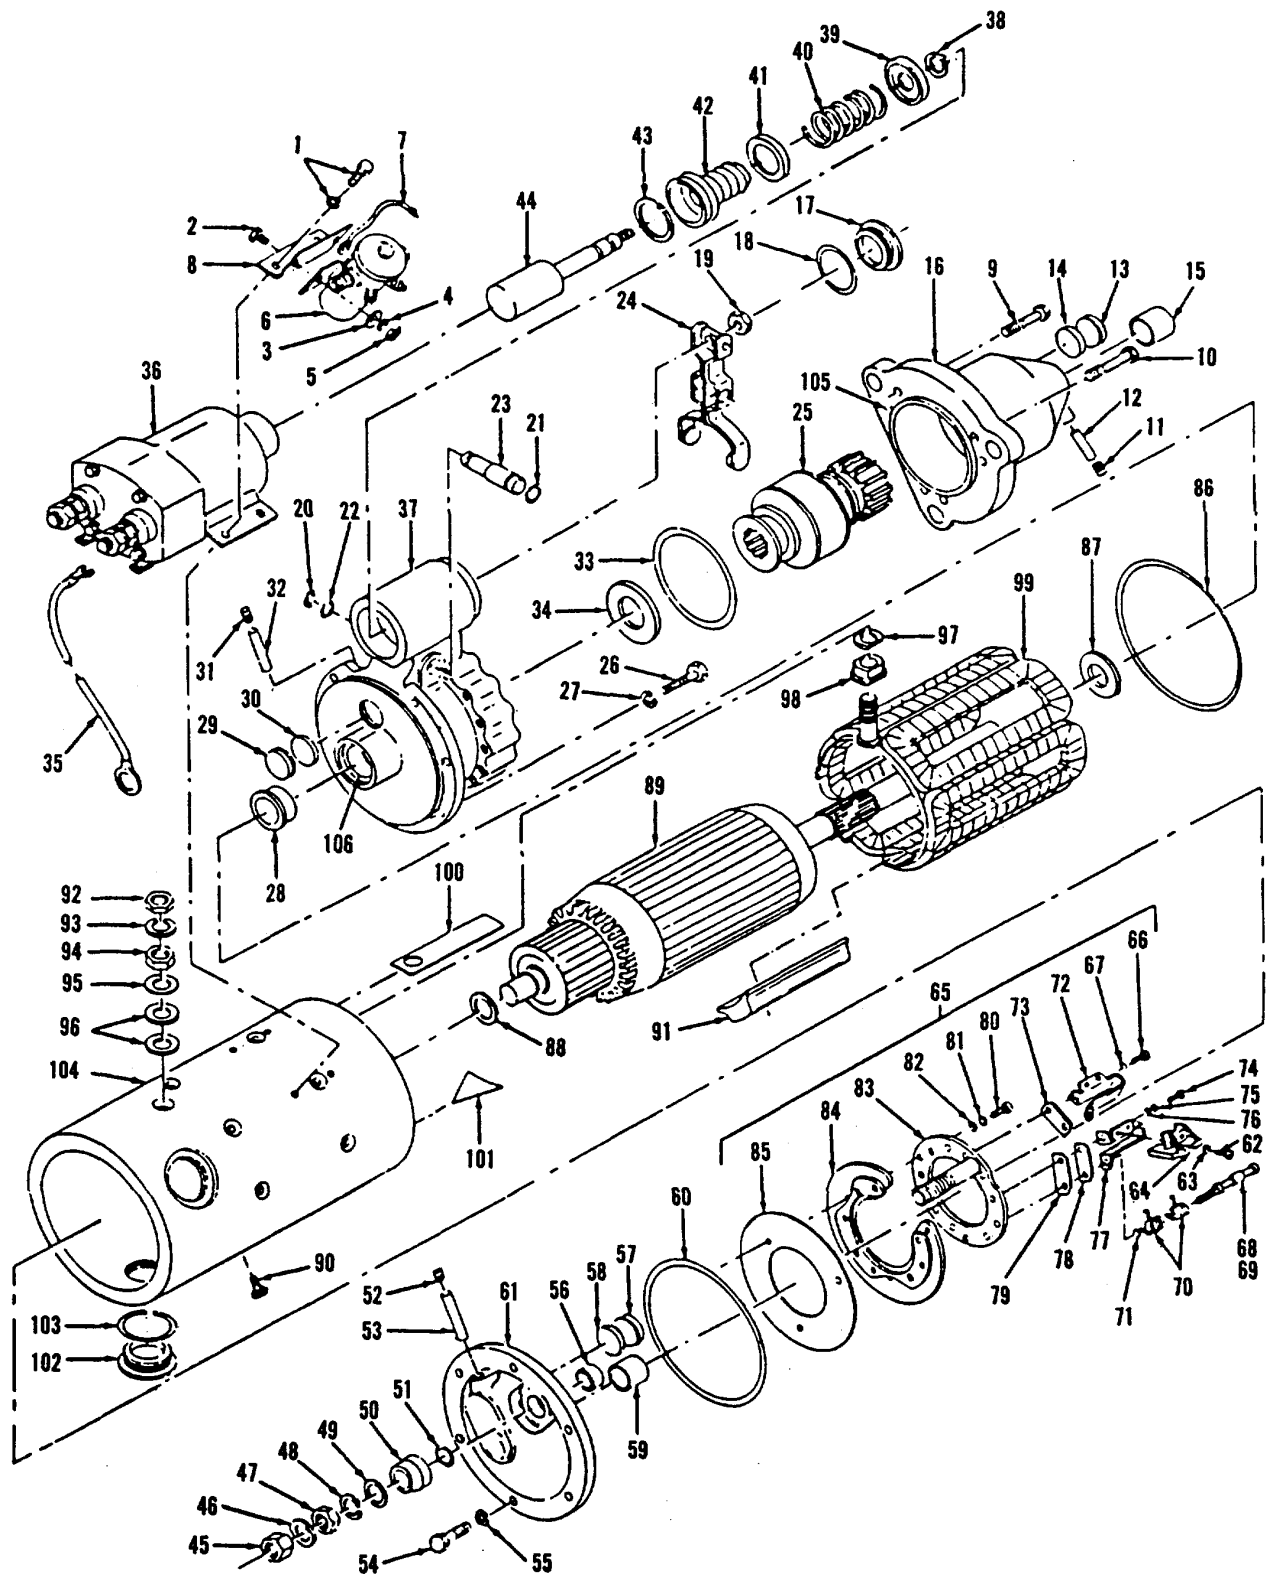
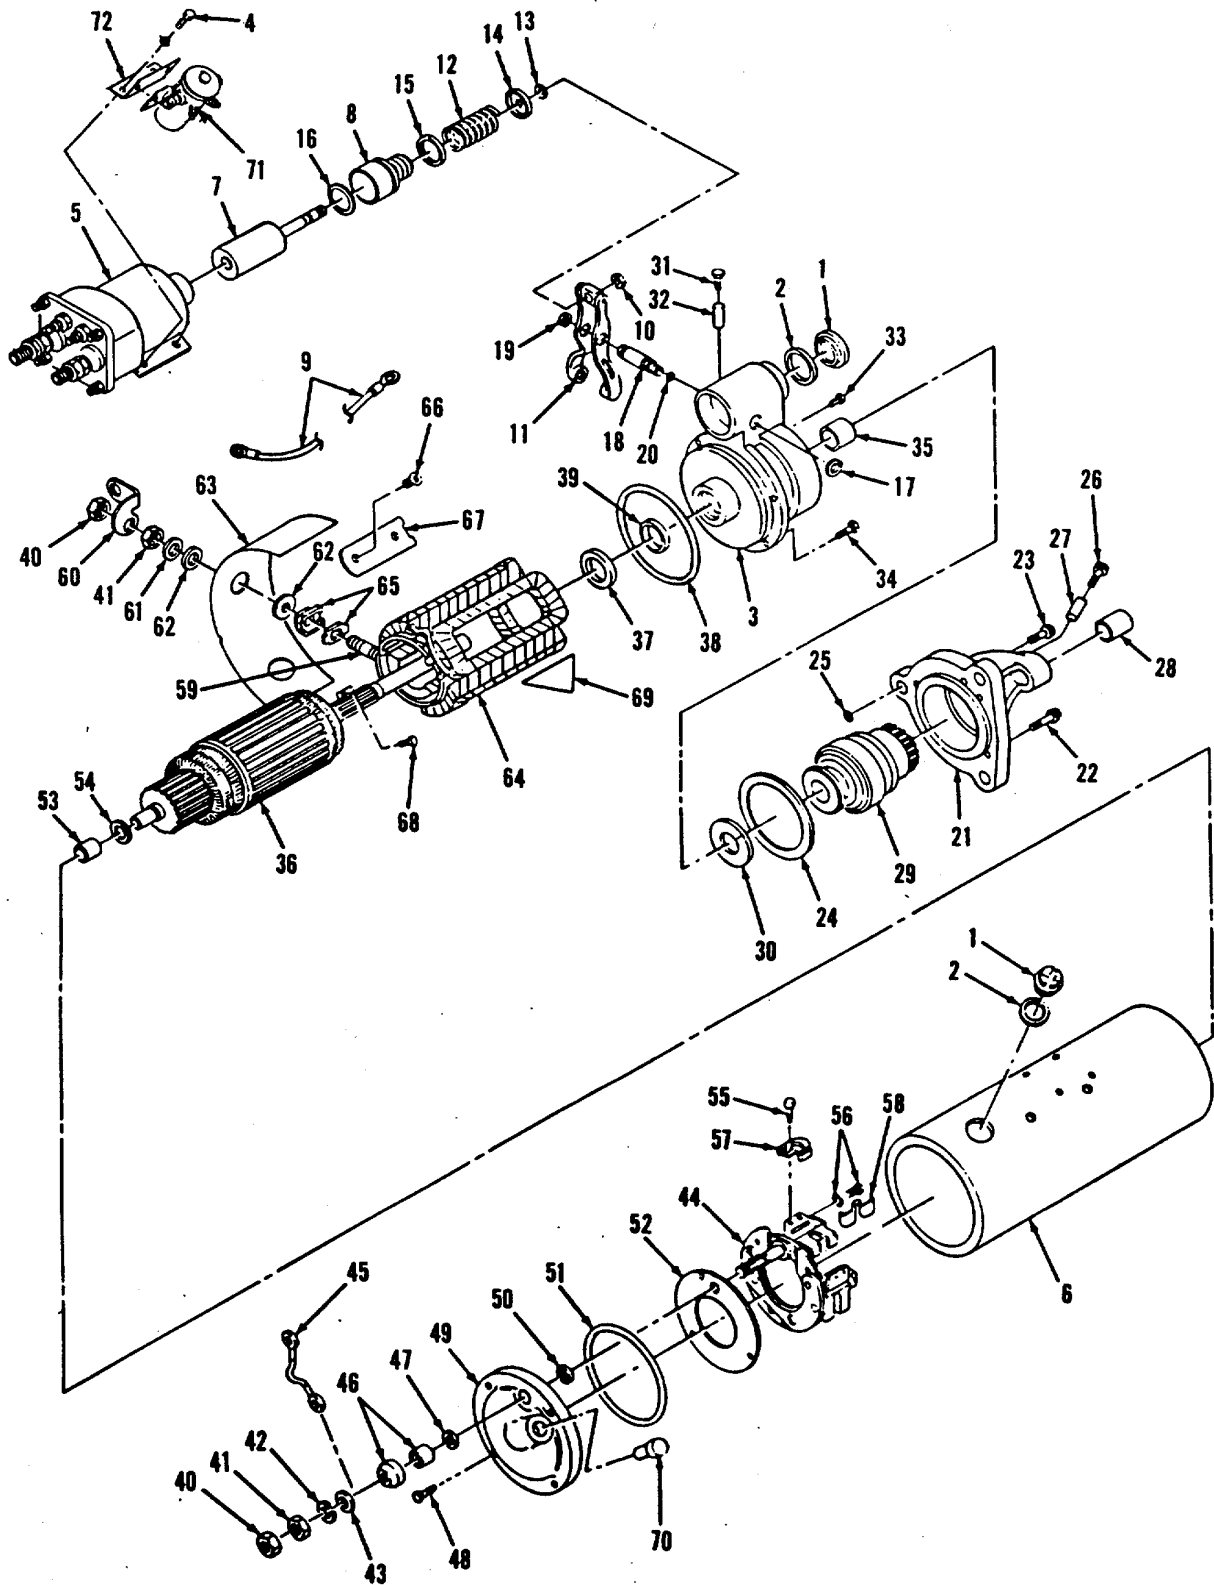

Figure 13-4. Starter Assembly, Exploded View (Code A)
Figure 13-9. Starter Assembly, Exploded View (Code B)
battery cable connections to starter and three screws which secure housing (16, figure 13-4) to engine. Tag and remove wires to the pilot relay (6, figure 13-4).
- b. Inspection. Remove inspection plug (102, figure 13-4). If any brush is less than 3/8 inch (9.5 mm) long, the complete set of brushes should be replaced.
- c. Test. Testing of the starter motor assembly consists of a no-load test of the complete unit and component tests to determine part serviceability. Before conducting the no-load test check the armature for freedom of rotation. Use a screw driver to turn the pinion on the exposed drive assembly (25, figure 13-4) in the drive housing (16). Tight bearings, bent armature shaft, or a loose pole shoe screw will cause armature binding. If the armature does not turn freely, disassemble the unit immediately. If the armature rotates freely, conduct the no-load test below before disassembling the motor.
(4) Disassemble the starter motor, inspect and test components as necessary.
- d. Disassembly. Disassemble the starter motor only to the extent necessary to repair or replace defective parts. Disassemble in accordance with figure 13-4.
- (1) Note the relative positions of the nose housing (16), lever housing (37), and solenoid switch (36) so that the motor can be reassembled in the same manner.
- (2) Tag and disconnect the field coil connector from the solenoid M terminal and lead from the ground terminal.
- (3) Remove four screws and
#### LEGEND FOR FIGURE 13-4
- (1) Turn down commutator in an appropriate lathe.
- (2) Undercut the insulation 1/32 of an inch wide and 1/32 of an inch deep. Remove any trace of dirt or copper dust between slots.
- (3) Sand the commutator lightly with No. 00 sandpaper to remove any burrs resulting from the undercutting procedure.
l. Assembly. Assemble the motor in accordance with figure 13-4.
- (1) Install the pole shoes (91) and secure with pole shoe screws (90).
- (2) Install the armature (89) and field coil (99) in the housing (104).
- (3) Install the lever housing (37) with screws (26), and washers (27)..
- (4) Position the washer (34) and gasket (33) in the lever housing and install the drive assembly (25) in
- (1) Install three screws through housing (37, figure 13-4) to secure starter to engine assembly.
- (2) Attach battery cable connections and connect wires to the pilot relay (6, figure 13-4).
- (3) Secure bypass oil filter assembly bracket to engine with six screws.
- (4) Attach bypass oil filter.
- (5) Install ether lines with the six support clamps and screws.
- a. Removal. Remove starter motor by removing battery cable connections to starter and three screws which secure housing (21, figure 13-9) to engine. Tag and remove wires to the pilot relay (6, figure 13-4).
- b. Inspection. Remove inspection plug (1, figure 13-9). If any brush is less than 3/8 inch (9.5 mm) long, the complete set of brushes should be replaced, para. 13-6 d (21).
- (7) Turn plunger rod nut (10, figure 13-9) clockwise to reduce clearance and counterclockwise to increase clearance as necessary to achieve a pinion clearance of 0.328 to 0.390 inches (8.33 to 9.9 mm). Apply pressure on stud to prevent turning while adjusting.
- (8) After completing adjustment, disconnect battery from G and S.
- (1) Remove four brush inspection plugs (1, figure 13-9) and gasket (2) from lever housing (3). Discard gasket.
LEGEND FOR FIGURE 13-9
- (1) Clean all parts except armature (36, figure 13-9), field coils (64), electrical solenoid (5), and drive assembly (29) in cleaning solvent P-D-680, Type II and blow dry with compressed air.
housing (6, figure 13-9) and stator housing (21) for cracks or other damage.